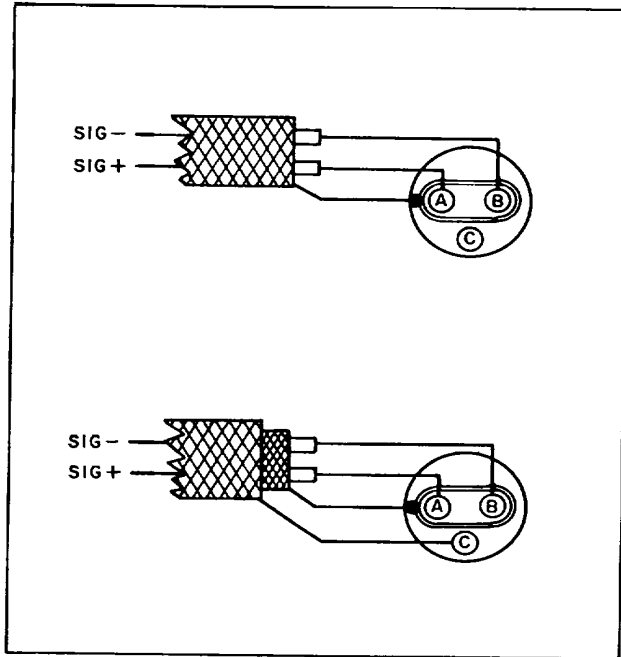

Figure 2-6. Input Connector Wiring, Guarded
- d. Solder the cable center conductors to pins A and B. See Figure 2-6.